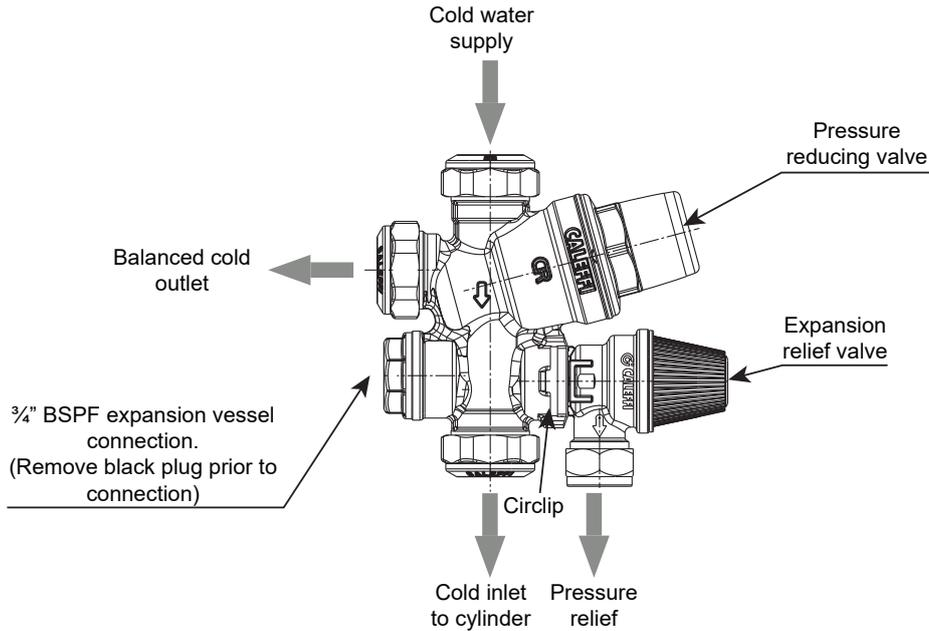

Figure 3-2: Cold water inlet manifold
A balanced cold water connection is provided on the inlet manifold. Refer to Figure 3-2. This should only be used to provide balanced cold supplies to shower valves and mixer taps. If the balanced cold water outlet is not required, blank off this port.
3. Once the pipework is flushed connect the cold supply to the Inlet manifold. Refer to Figure 2-2 for location and Figure 3-2 for a detailed drawing of the manifold. A service valve (not supplied) must be fitted in the cold supply to the cylinder before this connection is made.
6. Connect the expansion vessel directly to the 3/4" BSPF connection in the inlet valve manifold body, after removing the black plastic plug (see Figure 2-2 for location and Figure 3-2 for a detailed drawing of the manifold). Refer to Section 3.9 for more information on fitting the expansion vessel.
8. The pressure reducing valve has two outlets, the first being the cold supply to the cylinder; the second one is for a balanced cold water supply (Refer to Figure 3-2), to a shower or a bidet (over rim type only, ascending spray type requires type AA, AB or AD air gap).
This expansion vessel must be connected into the cold water supply, between the expansion relief valve (in the inlet manifold) and the cold water inlet to the cylinder. Refer to Figure 3-2.
The preferred method of connection is to hard pipe the expansion vessel directly to the 3/4" BSPF connection in the inlet valve manifold body using 22mm diameter pipe. Refer to Figure 3-2.
1. Remove the black plastic plug from the inlet manifold body (refer to Figure 3-2).